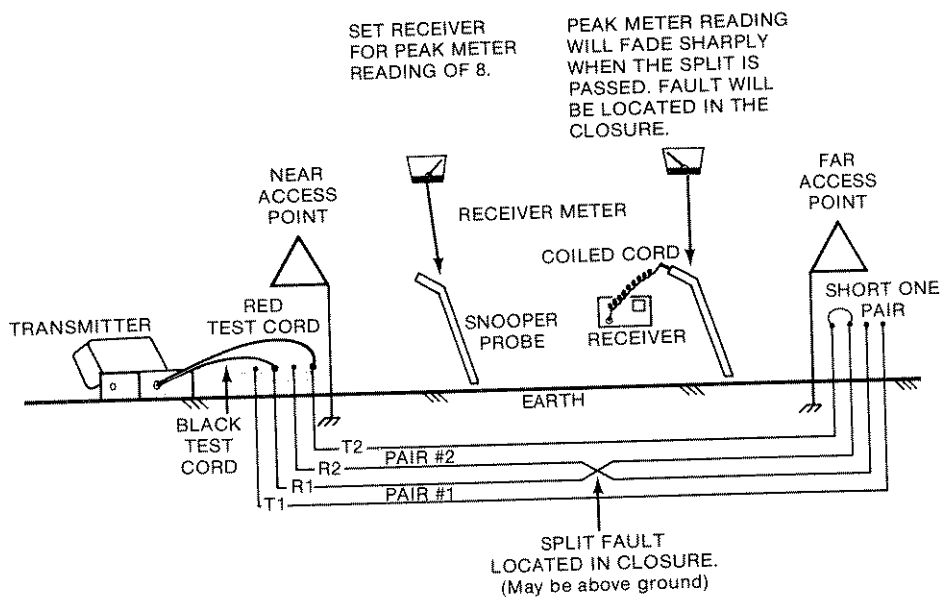

Figure 3-7.
1. Disconnect and isolate the cable sheath and one of the two wire pairs (associated with the split fault) at the far access point. Short together the isolated wire pair (see Figure 3-7).
2. Disconnect and isolate the cable sheath and necessary wires at the near access point (see Figure 3-7).
3. Hook up the red and black test cord clips at the near access point (see Figure 3-7).
4. Plug the jack end of the red/black test cord into the RED/BLACK TEST CORD jack receptacle on the transmitter (see Figure 3-7).